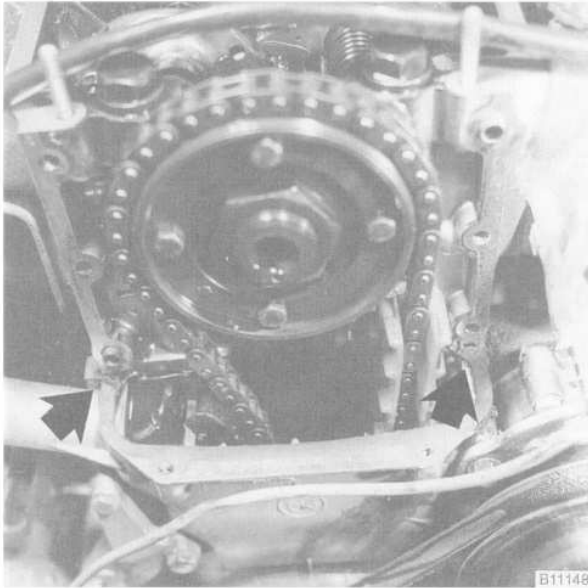

Fig. 31. Apply sealer (arrows) to corners before installing chain cover.
13. Apply a light coat of sealer to the two upper camshaft timing chain cover gaskets. Set the gaskets into position on the cover. Apply a sealer (Three Bond Silicon 1207, or equivalent) to each corner of the cylinder head/upper timing chain cover surface area. See Fig. 31.